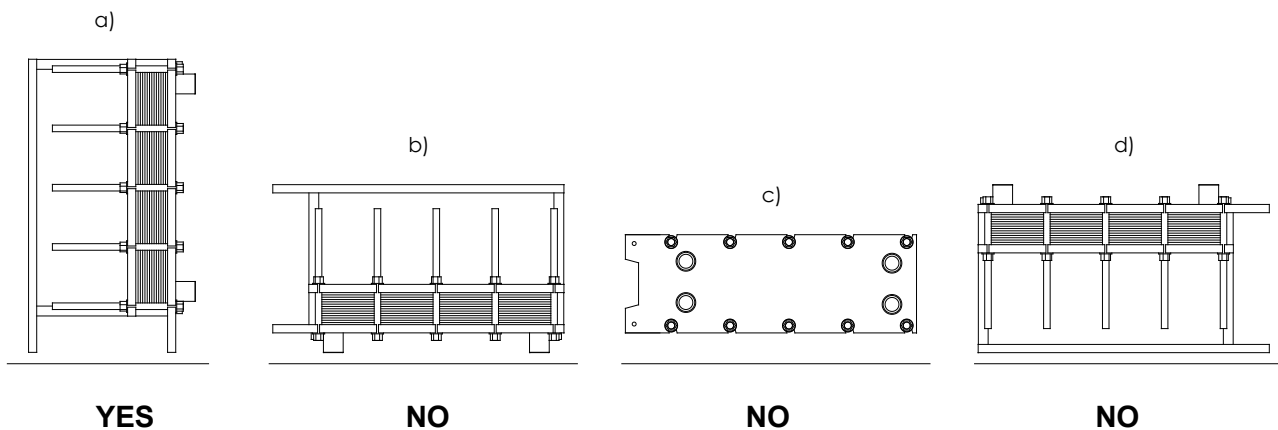

Figure 4: Installation options
1. Install the heat exchanger in a vertical position with adequate clearance around it (see page 22), in particular in front of the loose plate so that the device is accessible for any maintenance work. It is not advisable to install the heat exchanger as shown in Figure 4 b), c) and d) (this applies in particular to heat exchangers with embossed plates that have no crossover connections) because air bubbles (or other heavily ventilated media) can form in this case that reduce the exchange coefficients and increase the pressure losses.